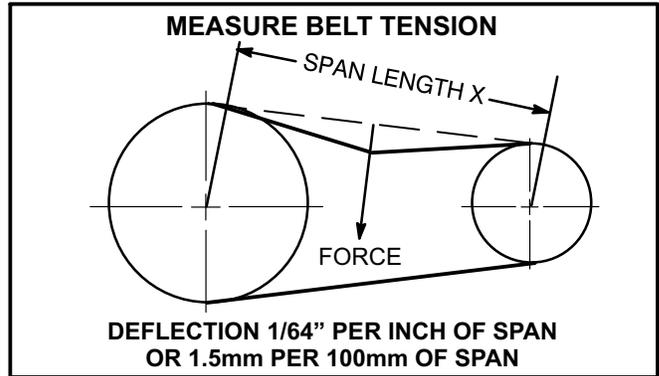

FIGURE 14
- 1- Measure span length X. See figure 14.
- 2- Apply perpendicular force to center of span (X) with enough pressure to deflect belt 1/64" for every inch of span length or 1.5mm per 100mm of span length.